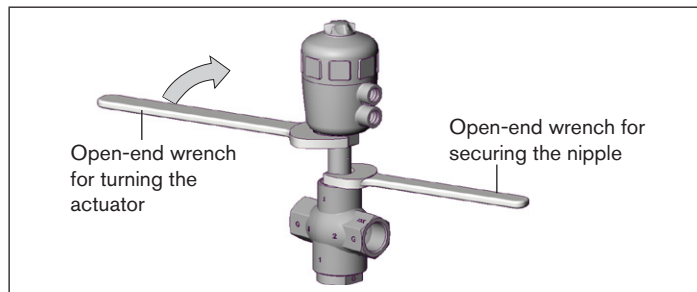

Fig. 10: Turning with open-end wrench
→ Place a suitable open-end wrench on the hexagon of the actuator (see "Fig. 10").
- ▶ Turn the actuator **in the specified sense of direction** only (see "Fig. 10").